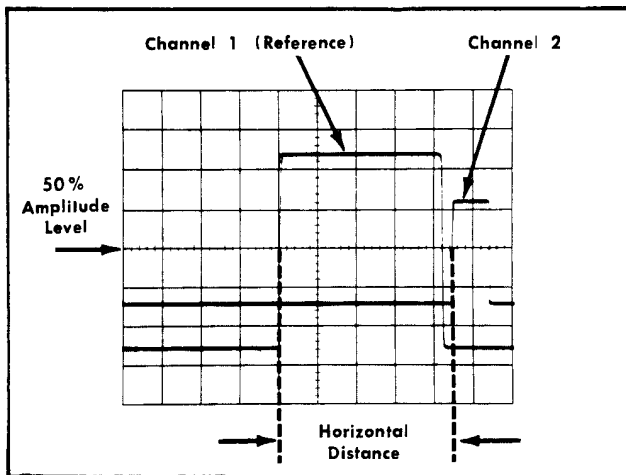

Fig. 2-14. Measuring time difference between two pulses.
11. Measure the horizontal distance between the Channel 1 waveform and the Channel 2 waveform (see Fig. 2-14).
**Example.** For example, assume that the TIME/DIV switch is set to 50  $\mu$ SEC, the magnifier is on and the horizontal distance between waveforms is 4.5 divisions (see Fig. 2-14).